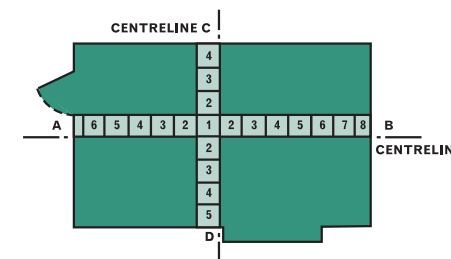

Figure 20 Laying out rubber tiles
**E.** Loose lay tiles away from the centreline C-D and check that no small strips will have to be laid. Adjust centreline C-D as described for A-B. In Figure 20, by moving the centreline C-D towards the door, tile 6 would only require a small amount to be trimmed off, as would tile 8 on the opposite wall.